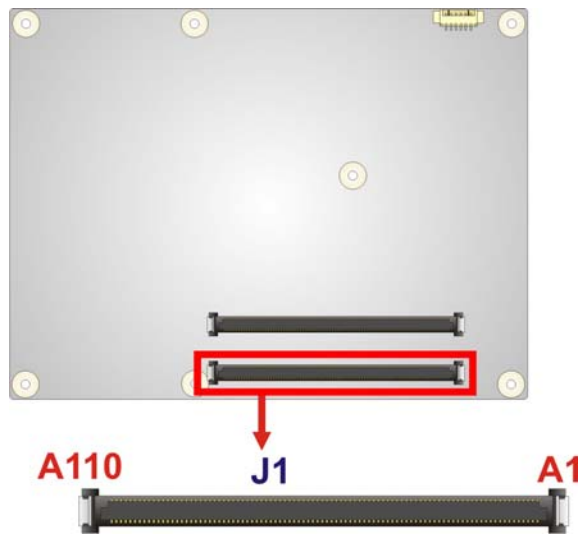

Figure 3-3: COM Express Connector AB Location
- CN Location:** See **Figure 3-3**